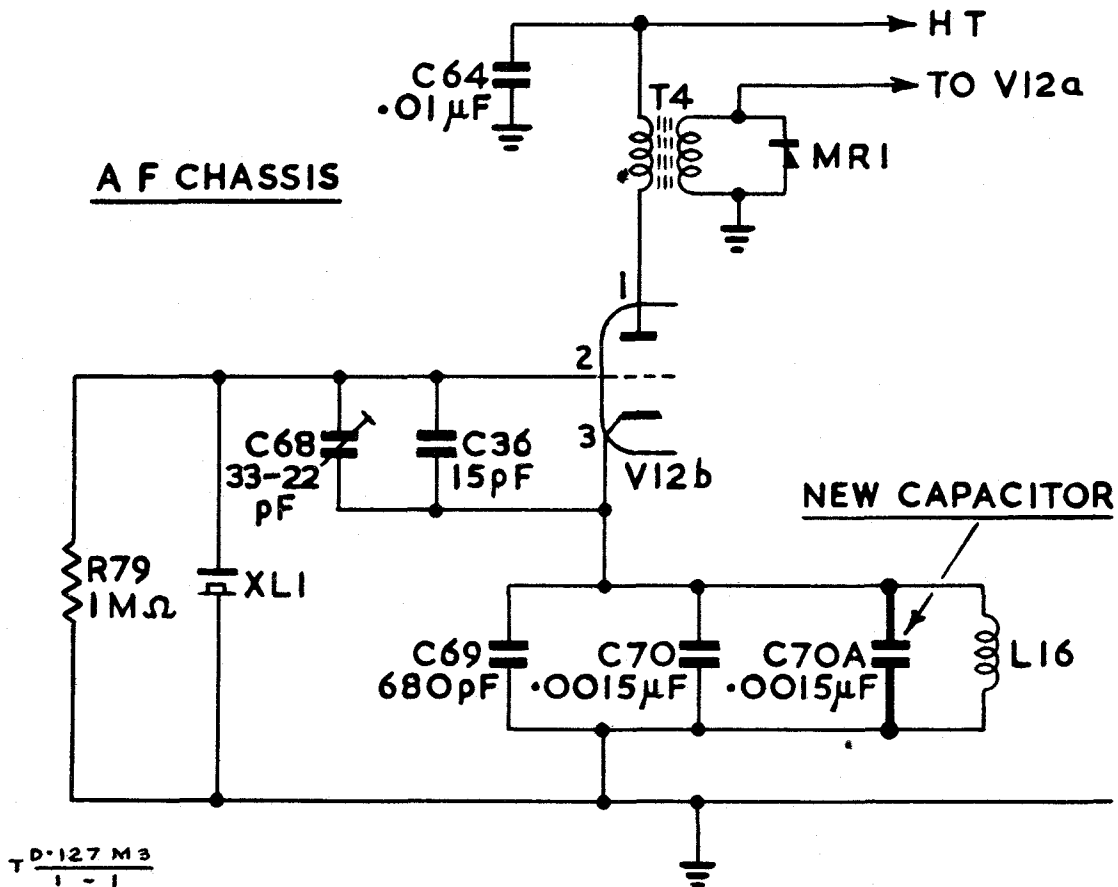

Fig 1 - Calibrator (oscillator section)
- (d) Fit the 0.0015μF capacitor between capacitors C69 and C70 and solder it in parallel with these capacitors. The new capacitor becomes 'C70A'. (see Fig 1).
- (e) Strike through the figure 1 on the equipment modification record plate.